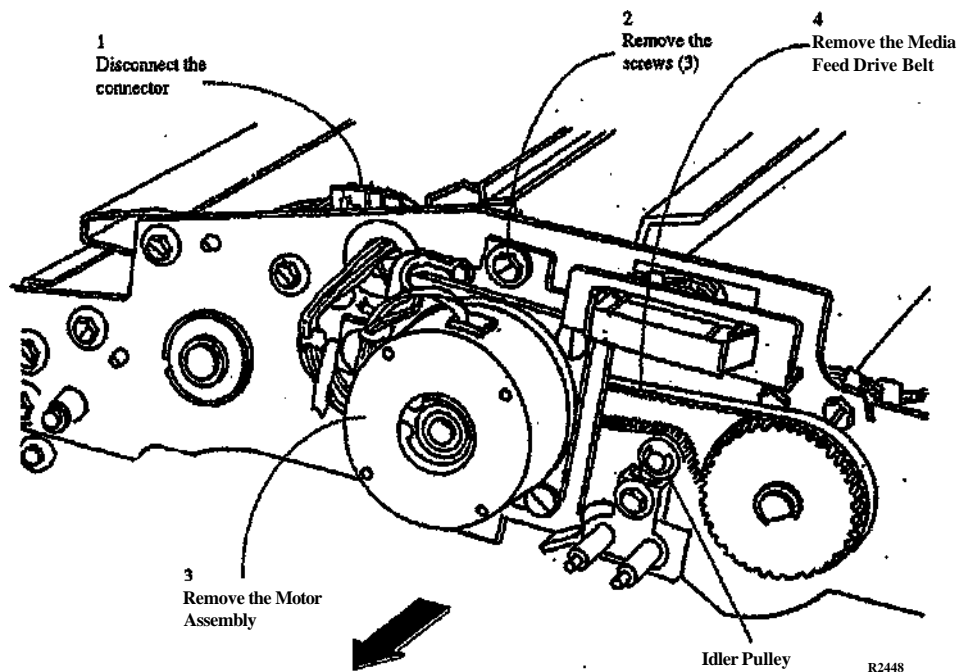

Figure 1. Removing the Media Feed Drive Belt
6. (Figure 1): Remove the Media Feed Drive Belt.